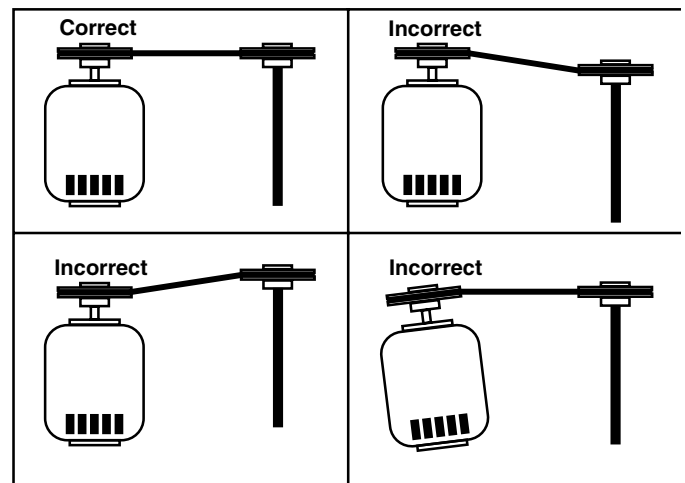

Figure 4
- Ensure pulleys are properly aligned. Refer to Figure 4.
Figure 4 illustrates correct and incorrect pulley alignment. A recommended method of inspecting the pulley alignment is shown in Figure 5. With the shorter leg of a carpenter's square or other straight edge lying along the case of the motor, adjust the position of the motor pulley (or the motor until the longer leg of the square is parallel to the belt).